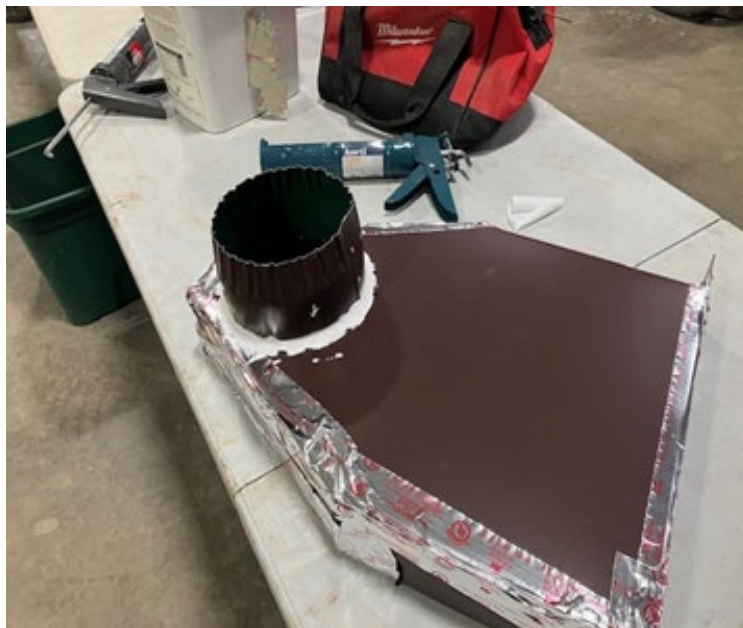

Figure C-19. Completed Plenum.
1. Tape all of the seams on the plenum with the metallized tape (see Figure C-19).
2. Caulk the area where the exhaust pipe meets the plenum body (see Figure C-19)
1. Verify exhaust pipe is properly crimped (see Figure C-19).
2. Verify that all seams and gaps are sealed with caulk or metallized tape (see Figure C-19).